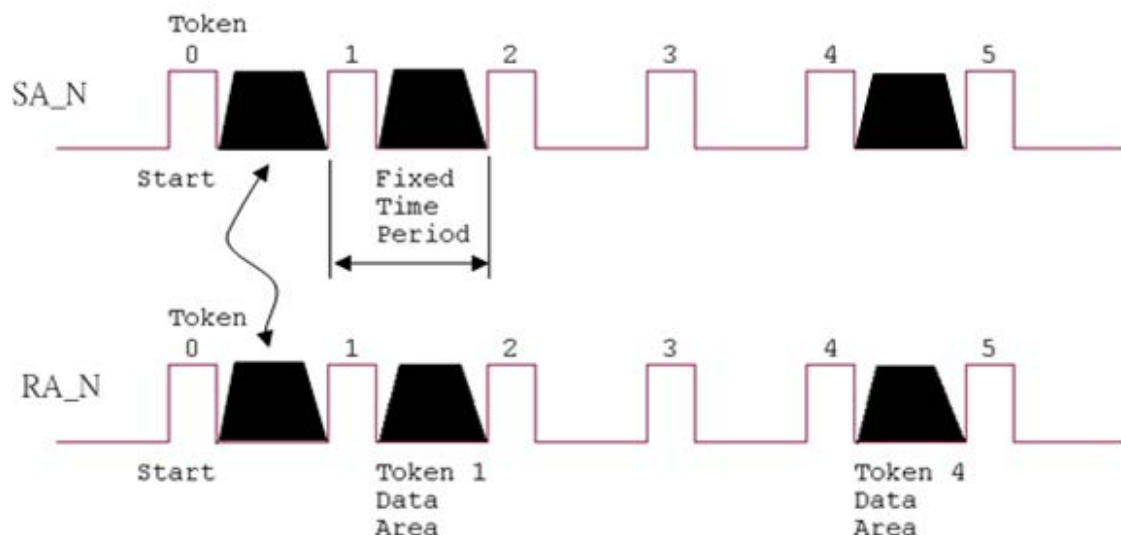

Figure 1.1 Token stream controlled by network manager, SA0
- The Token stream is produced cyclically by the hardware system (SA0) at the fixed time interval, see Figure 1.1. Therefore, the FRnet system can provide both the isochronous and deterministic functionalities.